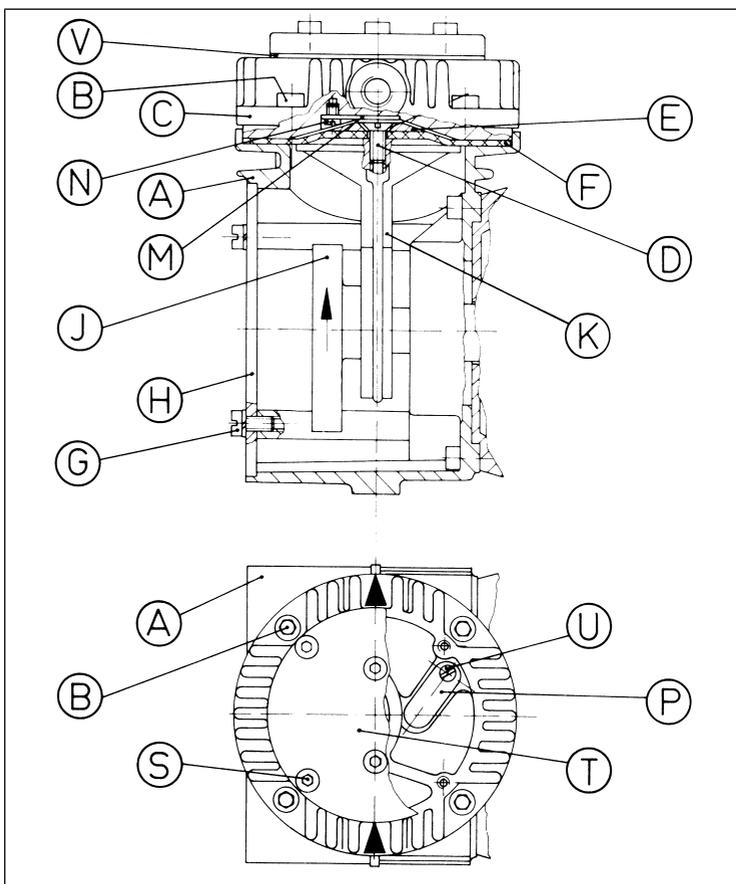

Fig.5: Pump parts
** According to Fig. 5
Acc. to Fig. 5
Replaced diaphragm and valves.	<ul style="list-style-type: none"> → Check the hoses for leaks. → If necessary, carefully tighten the screws (B) and/or (S) (see Fig. 5) crosswise.